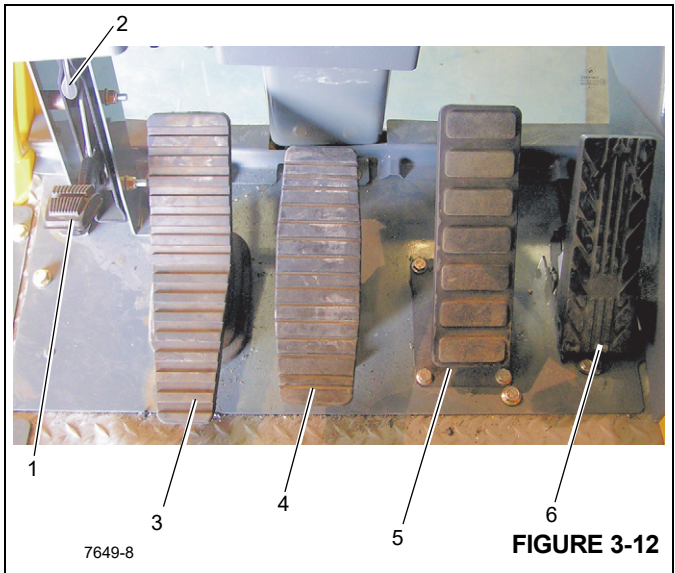

Figure 3-12 Item Numbers
The 360° Swing Lock Pedal (1) (Figure 3-12) is located on the left side of the crane cab floor. The pedal is used to activate the swing lock to prevent the turret from turning. To release the swing lock, pull up on the 360° Swing Lock Release Lever (2).
The Swing Brake Pedal (3) (Figure 3-12) is located on the left side of the cab floor. The swing brake pedal is used to
The Telescope Control Foot Pedal (4) Figure 3-12, supplied when the crane is equipped with an auxiliary hoist, is located on the left side of the cab floor. Pushing forward on the top of the pedal will extend the boom and pushing down on the bottom of the pedal will retract the boom.
The Brake Foot Pedal (5) (Figure 3-12) is the second pedal from the right on the cab floor. Depressing the pedal controls the application of the service brakes.
The Foot Throttle Pedal (6) (Figure 3-12) is located under the RCL display module, on the floor. It is used to control engine RPM which increases or decreases proportionately with the amount of foot pressure applied to the pedal. The pedal is electrically connected to the superstructure control module which sends the signal to the engine ECM via the J1939 data link.